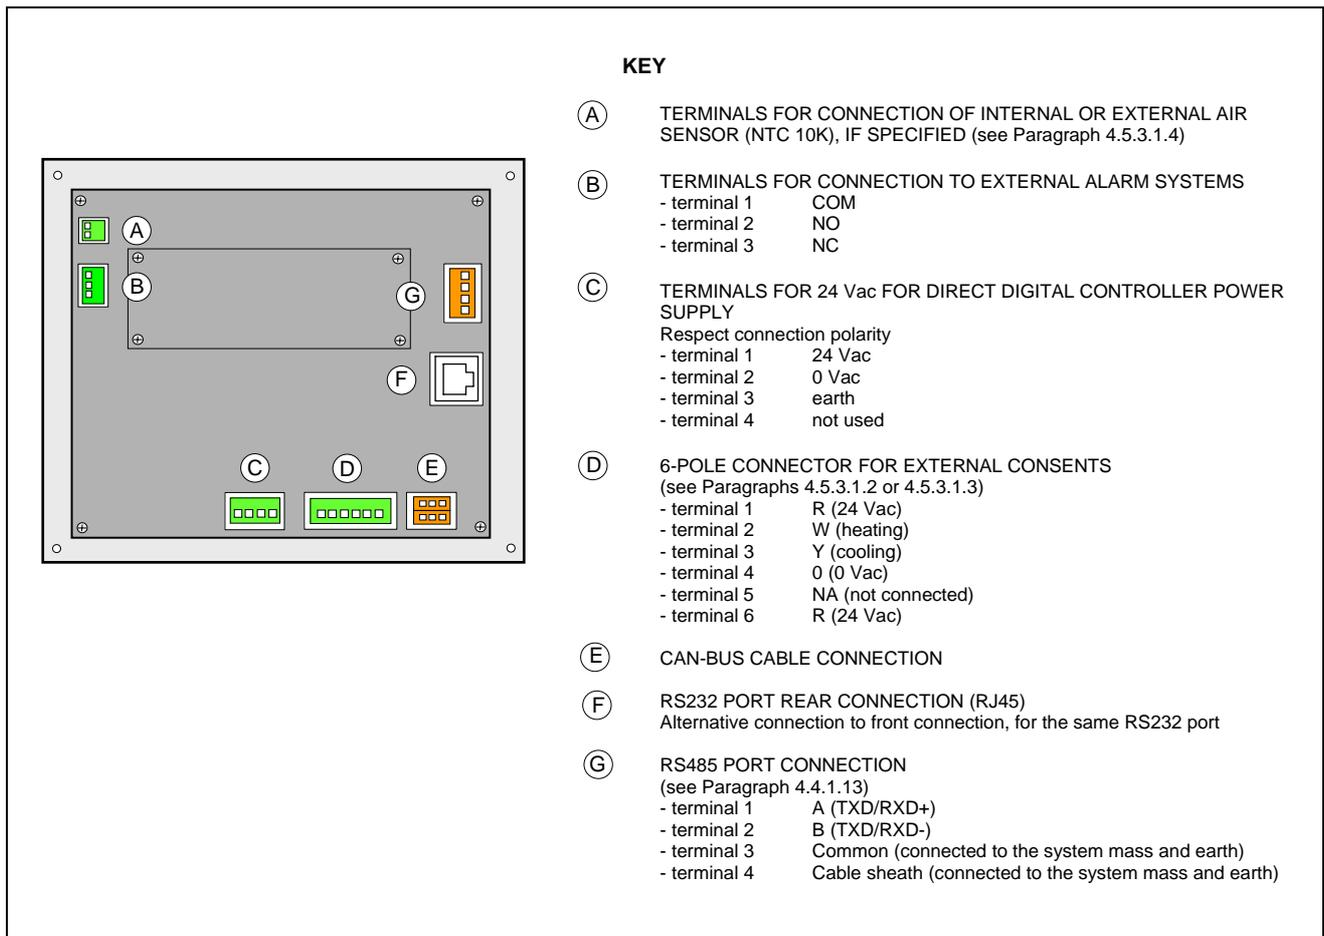

Figure 13– REAR VIEW OF DIRECT DIGITAL CONTROLLER and DETAIL OF ELECTRICAL CONNECTIONS
The following connection terminals are located on the rear of the Direct Digital Controller (see Figure 13):
- 2-pole connector for ambient air temperature sensor, supplied as an optional accessory, if specified (see detail A in Figure 13);
- 3-pole connector for alarm signal relay contacts (see detail B in Figure 13);
- 4-pole connector for 24 Vac power supply. Current is supplied to the DDC by a 24 Vac, 50/60Hz single secondary transformer (see detail C in Figure 13);
- 6-pole connector for external operation commands, if specified (see detail D in Figure 13);
- 6-pole CAN-BUS connector for connecting the DDC to the units (see detail E in Figure 13).
In particular applications, an external alarm signal may be required for high chilled water temperature and/or for low hot water temperature, or for a general alarm that allows any anomalies in the units to be signalled. To this end, a specific terminal with 3 contacts (see detail B in Figure 13) is provided on the rear of the Direct Digital Controller for the activation, via a relay, of an alarm signal, such as a light, siren or other device (for further information see Paragraphs 4.4.2.6.7 – **“Temperature Alarm Setup (Master DDC only)”** on page 100 and 4.4.2.4 – **“Alarm output setup”** on page 86.